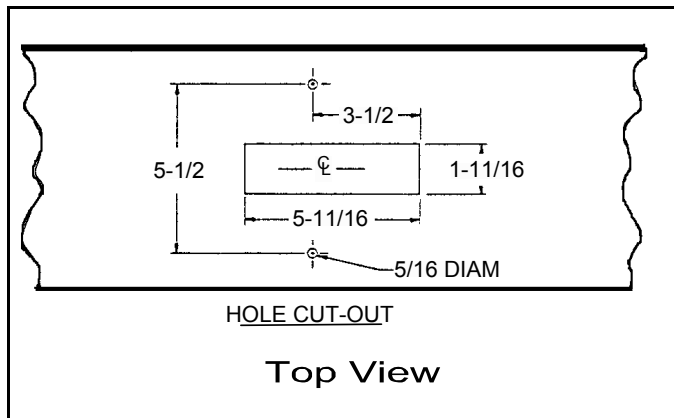

Figure 4K
2. Cut a hole in the bottom of the spout (1-11/16" x 5-11/16") and drill two 5/16" diameter holes 3-1/2" toward the discharge end and 5-1/2" apart as shown in Figure 4K. Use a saber saw for the hole, not a torch. Remove burrs and check so the sensor block fits into the stepped edge.